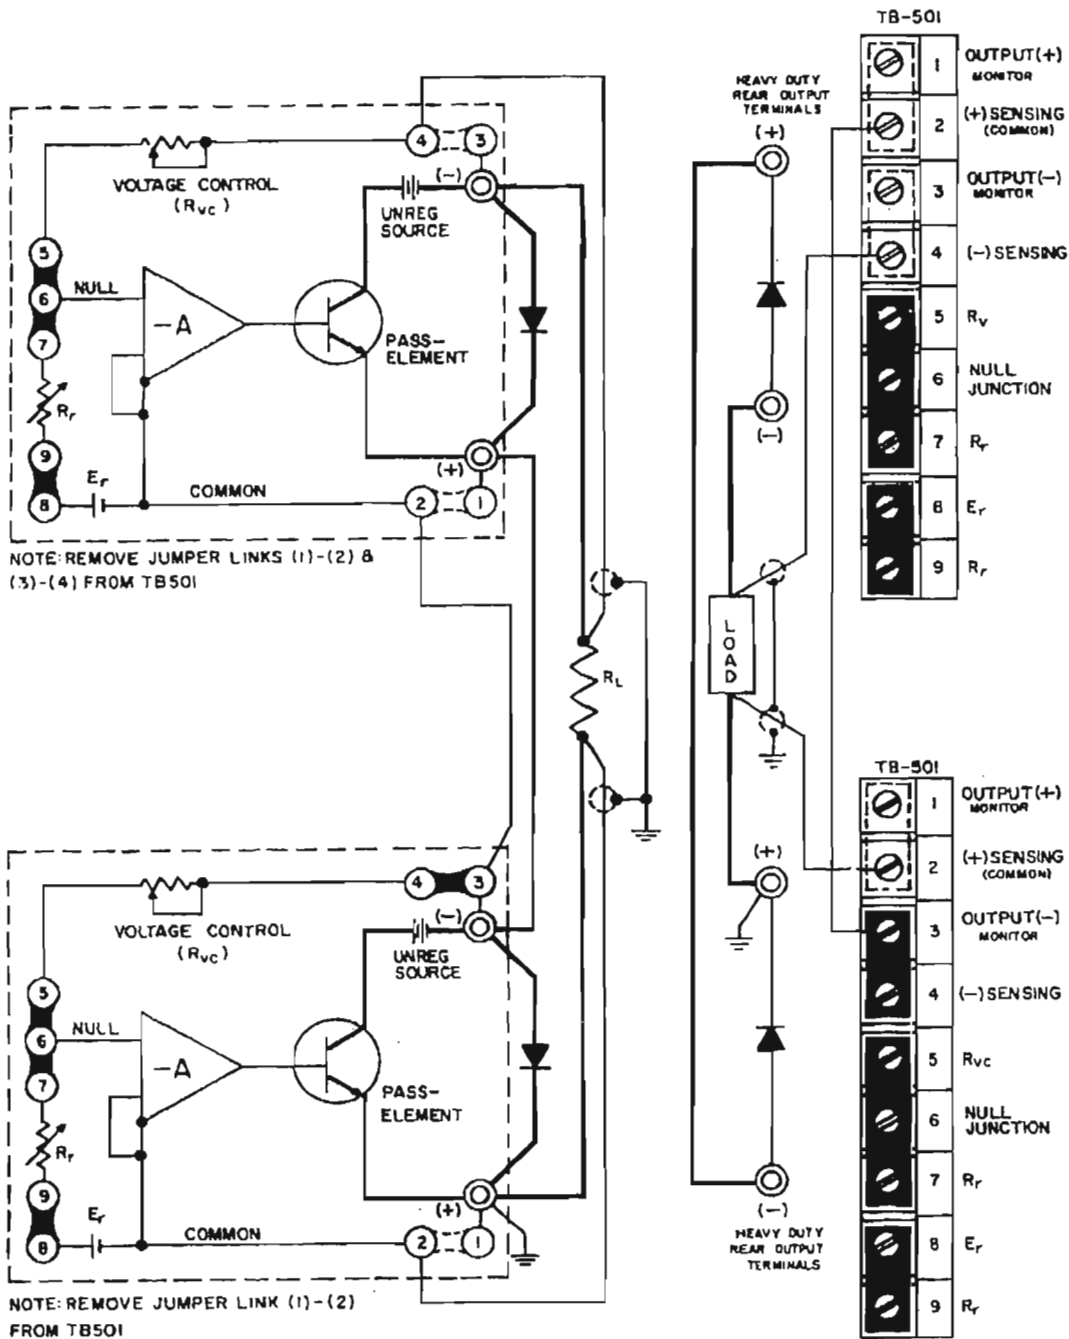
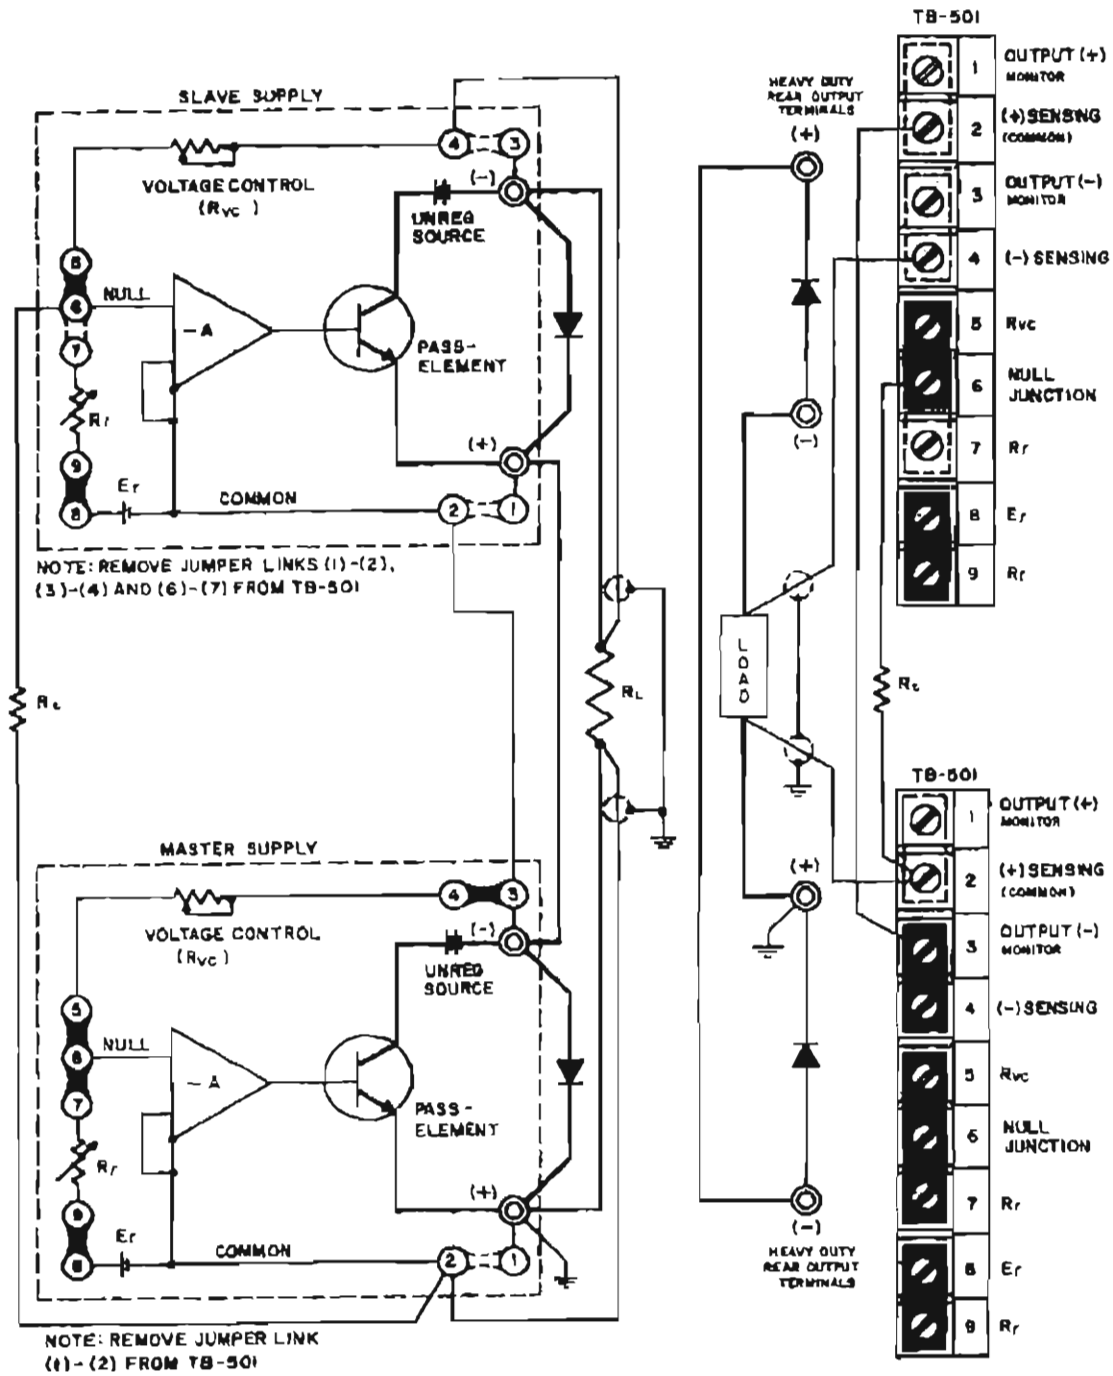

FIG. 3-10 AUTOMATIC SERIES CONNECTION OF KEPKO POWER SUPPLIES
FIG. 3-11 MASTER-SLAVE SERIES CONNECTION OF KEPKO POWER SUPPLIES
3-35 GENERAL. Kepco Power Supplies can be series-connected for increased voltage output, provided the specified limits on voltage to chassis are not exceeded. When series-connected, the supplies should be protected by means of a semiconductor diode across the output terminals of each power supply, as shown in FIG. 3-10. The peak inverse rating of these diodes must be at least as large as the output voltage of the supply to which they are connected. The continuous current rating of the diodes should be at least as great as the largest short-circuit current of the interconnected supplies.
3-36 Two basic series connection methods are generally used, the "Automatic Series Connection", as illustrated in FIG. 3-10, and the "Master-Slave" connection, shown in FIG. 3-11. The basic difference between these two alternate methods lies in the manner of the output control. While in the "Automatic" connection the outputs of both supplies may be controlled individually, in the "Master-Slave" connection, control is exercised from the "Master" supply alone, while the "Slave" supply follows the master command in a ratio which may be pre-determined by the user. The latter method of series operation is therefore frequently termed "Automatic Tracking".
- a) Connect load as shown in FIG. 3-10. Keep voltage drop in load wires as low as practical by using heavy gauge wire.
- 3-38 The "Master-Slave" series connection method is illustrated in FIG. 3-11. As seen from the figure, the reference voltage ( $E_r$ ) of the "Slave" supply is disconnected and its input or null junction is connected to the output of the "Master" supply via the tracking resistor ( $R_t$ ). The "Slave" supply output is thus completely dependent on the "Master" output voltage:
- a) Connect load as shown in FIG. 3-11. Keep voltage drop in the load wires as low as possible by using heavy gauge wire.
- c) Remove jumper links as shown (FIG. 3-11) and connect error sensing leads if remote sensing is desired. Sensing leads should be twisted and shielded.
- d) Select value of the tracking resistor ( $R_t$ ) and connect with shielded wire as shown (FIG. 3-11).